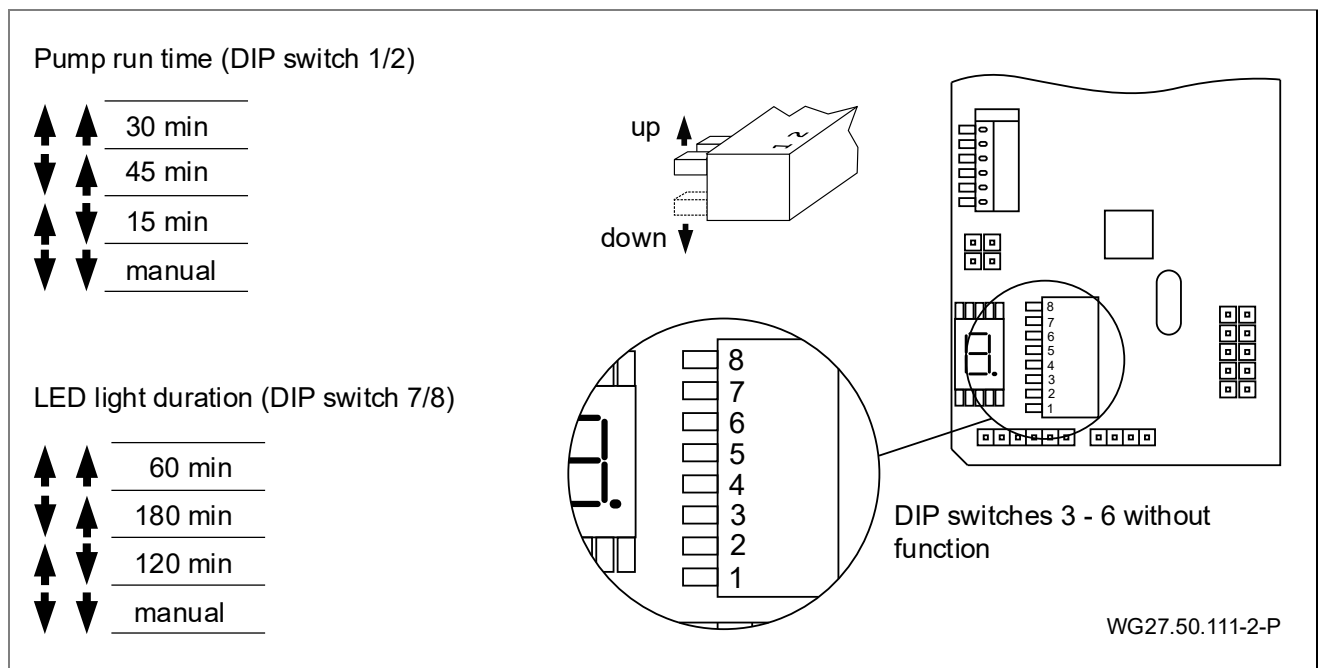

Fig. 30
3. Support the suction and pressure lines to relieve them. See "Fig. 30".